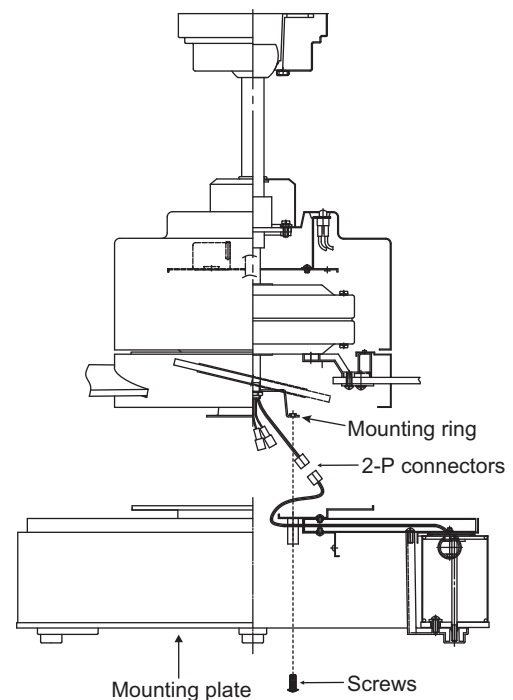

Figure 17
3. Place the key holes on the light kit over the 2 screws previously loosened from the mounting ring, turn light kit until it locks in place at the narrow section of the key holes. Secure by tightening the 2 screws previously loosened and the one previously removed. (Fig. 17)